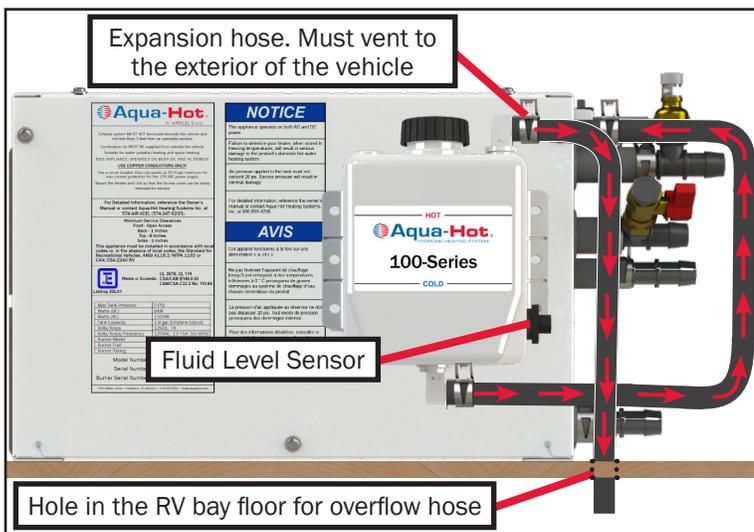

Figure 16.
3. Drill a hole in the floor of the RV to allow the overflow tube to vent to the exterior of the vehicle (Figure 16).
6. Place the overflow hose so that it connects to the upper fitting of the expansion bottle, and exits through the hole drilled through the RV floor in step 3 (Figure 16). Secure this hose to the upper fitting with a constant tension hose clamp.